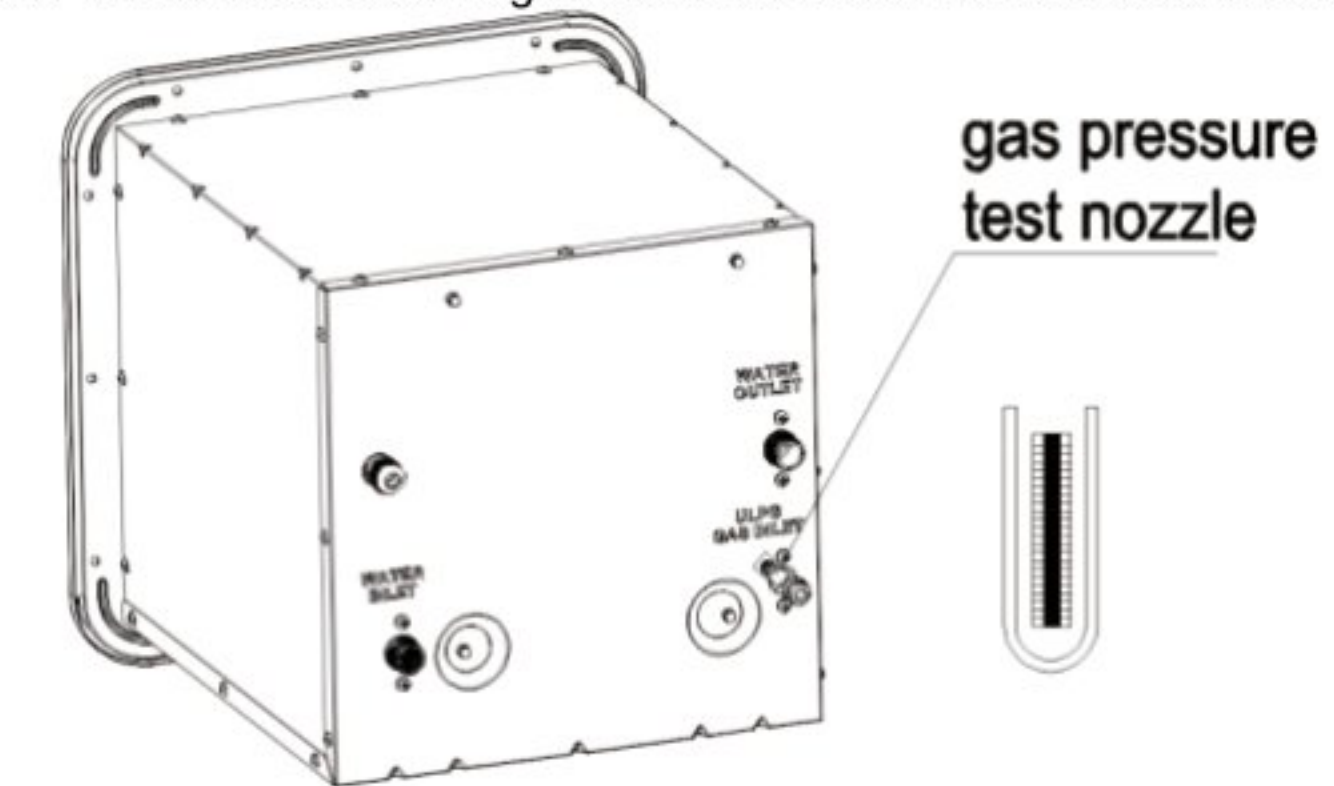

Figure 21
- Isolate the gas supply. Remove test point screw located at the gas inlet connection and attach pressure gauge - see Figure 21